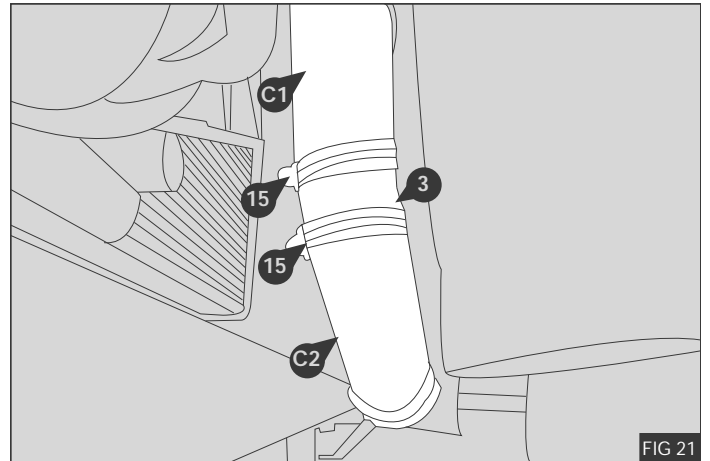

FIG 21
10. Fit the bottom half of the cut hose (C2) to the top half of the cut hose (C1) leaving a gap between (C1) & (C2) to allow for the whole hose assembly to be extended - Fig 21
11. Secure both halves together with the top 40-60mm pipe clip (15) - Fig 21